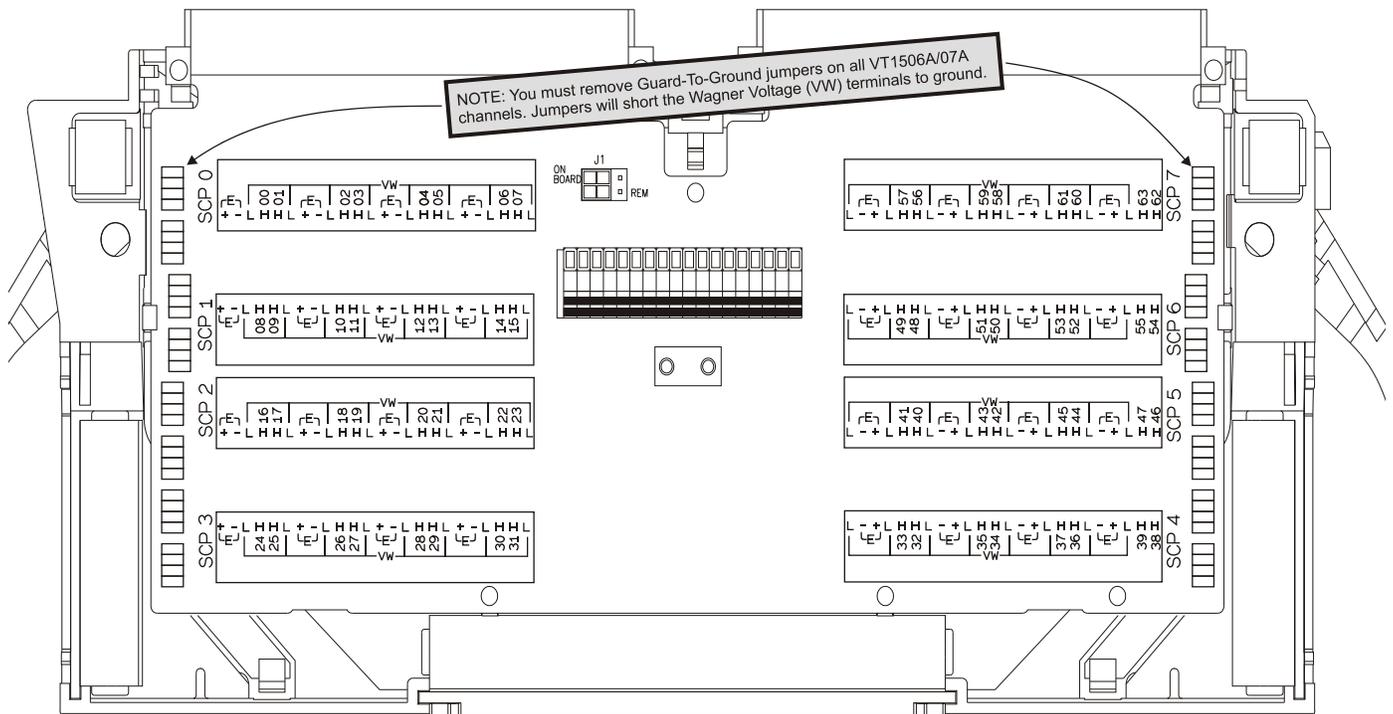

Figure 5. VT1506A/07A C-Size Terminal Module Connections
- For VT1413C and above Terminal Modules, use stickers for VT1506A/07A SCPs. The connections are shown in Figure 5.